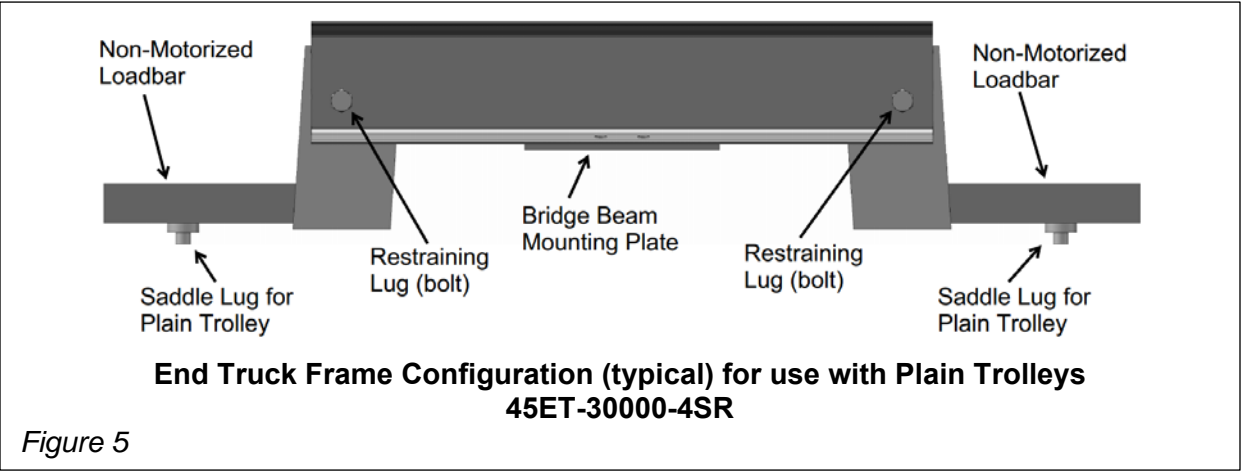

Figure 5
- Figure 5: configuration of end truck frame for use with two plain (idler) trolleys